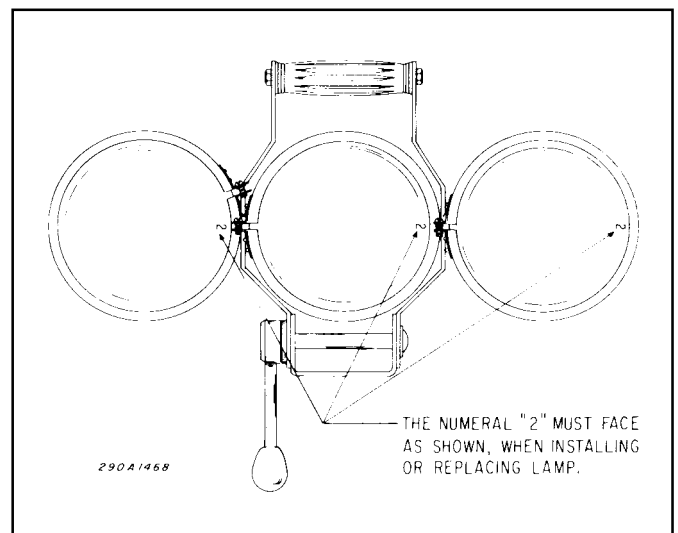

Figure 4. Front View, 12VDC Units.
5. 12VDC Units Only. When installing a replacement lamp, ensure that the numeral "2" cast into the front of the lamp is to the right when the lamp is viewed from the front (see figure 4). Then, make sure the bosses on the edge of the lamp engage the notches on the front edge of the lamp housing.